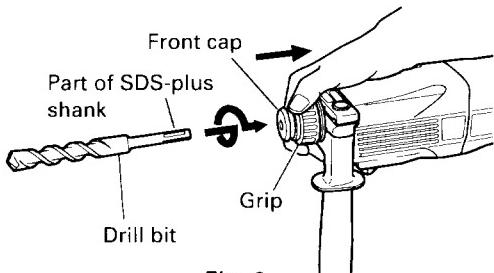
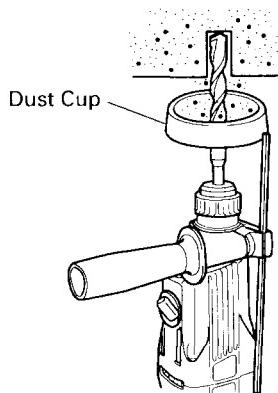
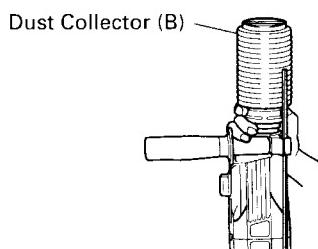

Fig. 2
Fig. 3
Fig. 4
6. Mounting the drill bit (Fig. 2)
(1) To attach a drill bit (SDS-plus shank), fully pull the grip in the direction of the arrow as shown in Fig. 2 and insert the drill bit as far as it will go while manually turning.
(2) By releasing the grip, the drill bit will be secured.
(3) To remove the drill bit, fully pull the grip in the direction of the arrow and pull out the drill bit.
7. Installation of dust cup or dust collector (B) (Optional accessories) (Fig. 3, Fig. 4)
Use the dust cup by attaching to the drill bit as shown in Fig. 3.
When using dust collector (B), insert dust collector (B) from the tip of the bit by aligning it to the groove on the grip (Fig. 4).